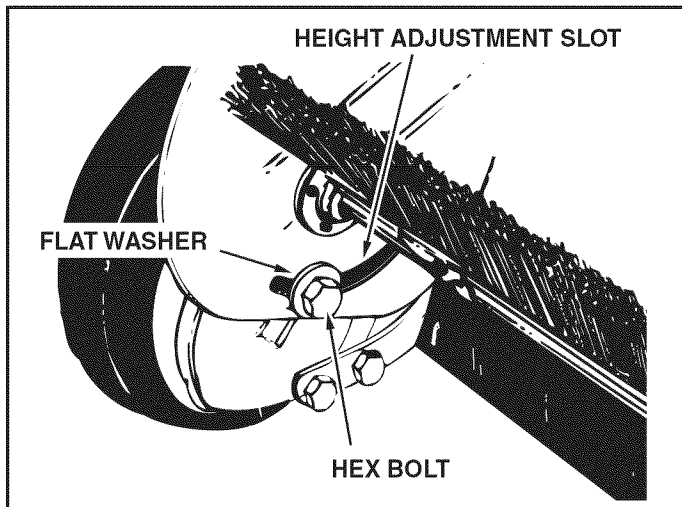

FIGURE 19
- Inspect for worn or damaged parts, such as brushes and wheels. See figure 19.